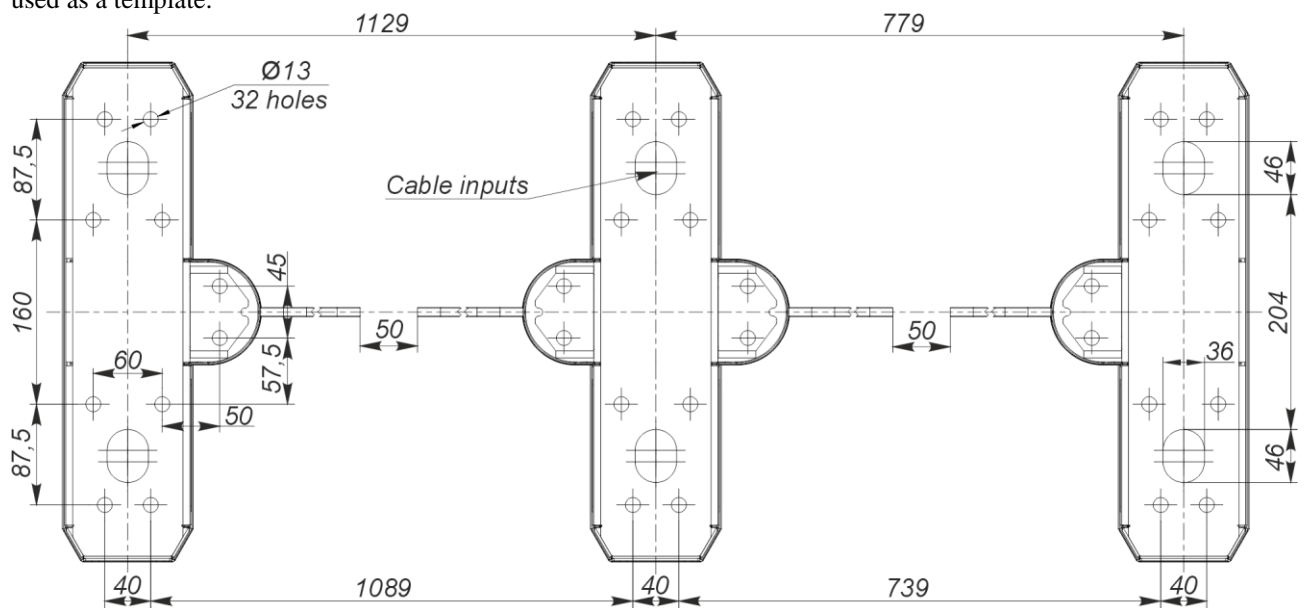

Fig. 16 – Installation dimensions of the "SWEEPER-SH-1" and "SWEEPER-SH-2" turnstiles set
- 5) The turnstile fixation holes to be marked on the area surface according to Figure 16. The turnstile it self can be used as a template.
10) The cable outlet location to be aligned with the hole on the turnstile mounting plate (Fig.16).
- 5 align fixation holes at the turnstile bottom plate with the prepared surface holes according to the marking shown in Fig.16;